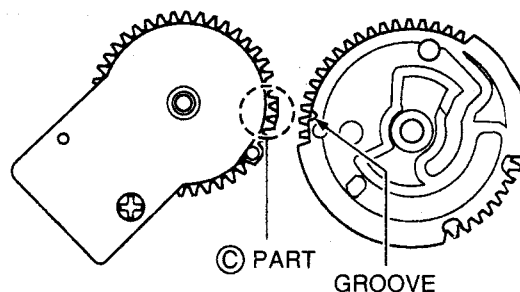
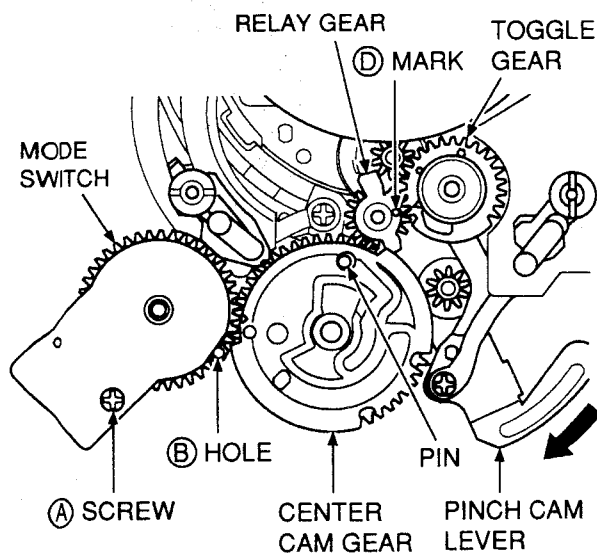

Fig. 3-30
Fig. 3-29
4. Remove the RELAY GEAR and CENTER CAM GEAR by pulling them upwards as shown in Fig. 3-29.
5. Remove the (A) screw which retains the MODE SWITCH and remove the MODE SWITCH carefully so as not to damage the flexible PCB as shown in Fig. 3-29.
7. Replace it with a new one and install it in the reverse order. When soldering the MODE SWITCH, take special care to place the MODE SWITCH in the correct position on the flexible PCB. And make sure that the MODE SWITCH's (B) hole is aligned with its reference hole on the chassis and the hole on the SLIDER PLATE PART.
8. Place the CENTER CAM GEAR on the MECHA. CHASSIS. At this point, align the (C) part (part with unbroken teeth) of the MODE SWITCH with the groove on the CENTER CAM GEAR as shown in Fig. 3-30.
And also move the PINCH CAM LEVER in the direction of the arrow and set it where the pin of the PINCH CAM LEVER is visible through the hole on the CENTER CAM GEAR as shown in Fig. 3-29.
9. Place the RELAY GEAR so that the (D) mark on the RELAY GEAR is aligned with the "<" mark on the TOGGLE GEAR as shown in Fig. 3-29.
- 3) When placing the RELAY GEAR, the RELAY GEAR's \odot mark must be aligned with the \triangleleft mark of the TOGGLE GEAR (refer to 3-4-11, step 9). At this point confirm that the \odot part (the part with unbroken teeth) of the MODE SWITCH is aligned with the groove on the CENTER CAM GEAR and the MODE SWITCH's \oplus hole is aligned with its reference hole on the CHASSIS and the hole of the SLIDER PLATE (refer to Fig. 3-30 and 3-29).